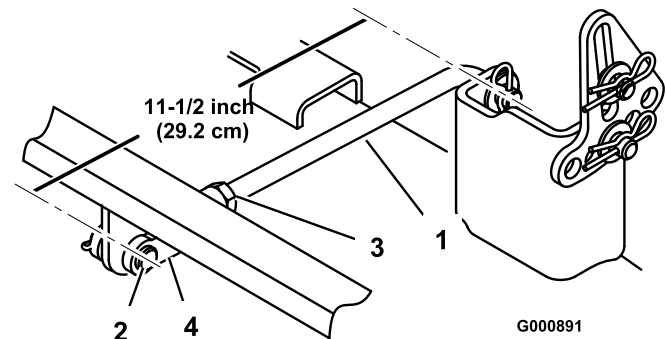

Figure 43
5. Measure the length of the rear trunion rod (Figure 43). If the rod length is not 11-1/2 inch (29.2 cm), remove the clevis pin and cotter pin from the end of the rod (Figure 43), loosen the jam nut, and turn the yoke until the 11-1/2 inch (29.3 cm) dimension is obtained.